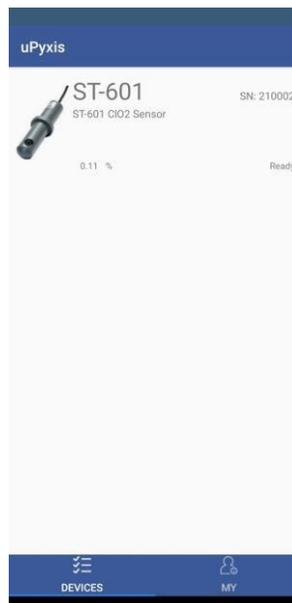

Figure 7.
3. If the connection is successful, the ST-601 and its Serial Number (SN) will be displayed (Figure 7).